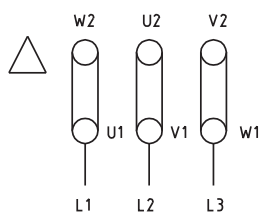

Figure 2. L1,L2,L3 = connection of motor
The power supply cable to the fan is made according to current regulations. The connection is made according to current rules and by authorised personnel. The fan is connected through thermal relay based on motor rated current. The connection is effected direct in the switch item 06 on the mounting frame. For connection see installation instructions figure 2.